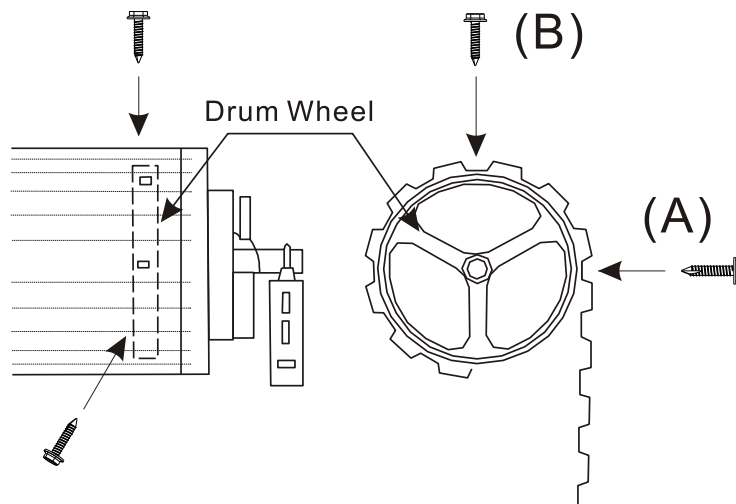

Fig 13
- 6.2 With the garage door in the fully closed position, mark the curtain at points "A" and "B" as depicted in Fig.13